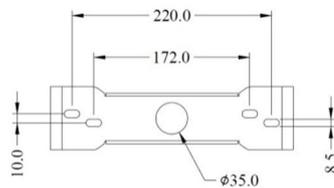

Figure 2
- by using four fasteners (not provided). (Figures 2 and 4)